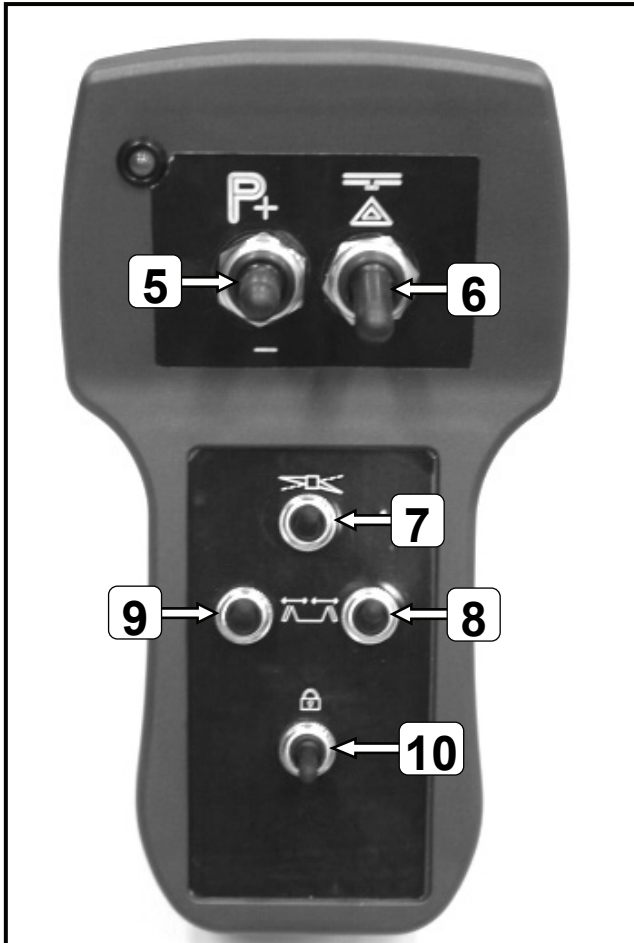
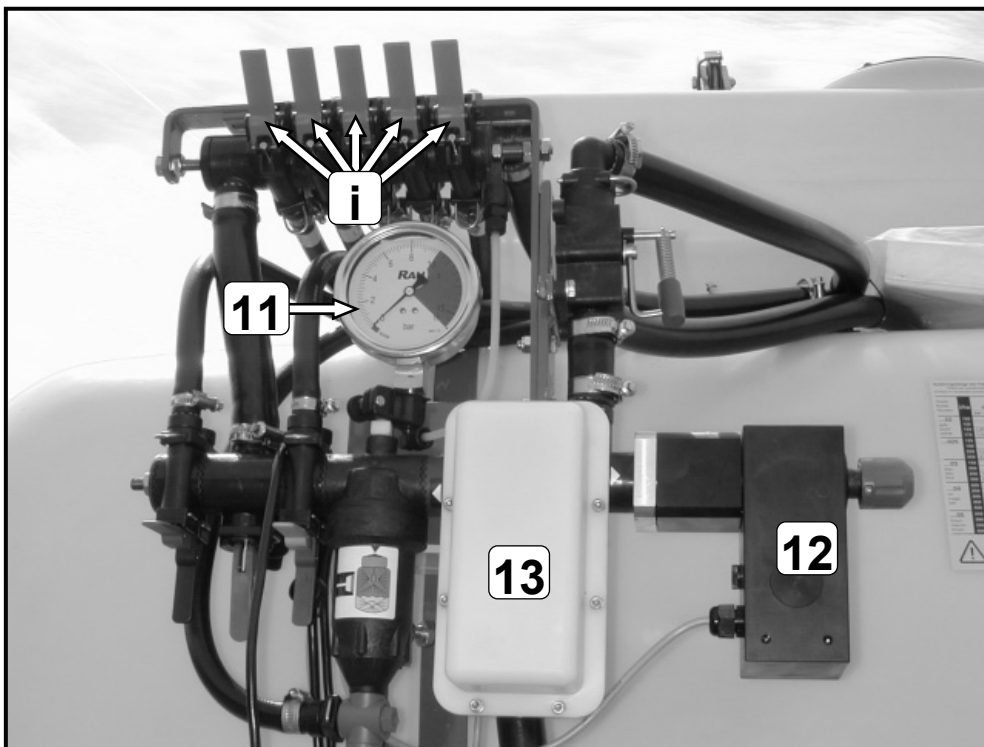

Fig. 3
Fig. 4
The following spraying functions can be electrically remote controlled on the control box (fig. 3):
When the central switch (6) (fig. 3) is operated, the main valve (13) (fig. 4) is opening or closing the liquid supply to the sections (Switch upwards = valve is open). The sections opened by the section valves (i) are now supplied with spraying liquid (fig. 4).
When the switch is operated (5) (fig. 3) the pressure regulation motor (12) (fig. 4) is actuated in the direction in question (+ or -) as long as the switch (3) is held down. The spraying pressure (bar) can thus be altered manually. The actual spraying pressure can be read of the manometer (11) on the machine (fig. 4).
The lower field of the control box contains the switches (7 – 10) for the hydraulic functions of the spray boom (fig. 3).
- All the double-acting hydraulic functions are pre-selected via the corresponding toggle switch on the control box (switches 7 – 10, fig. 3) and implemented via a double-acting control appliance on the tractor.